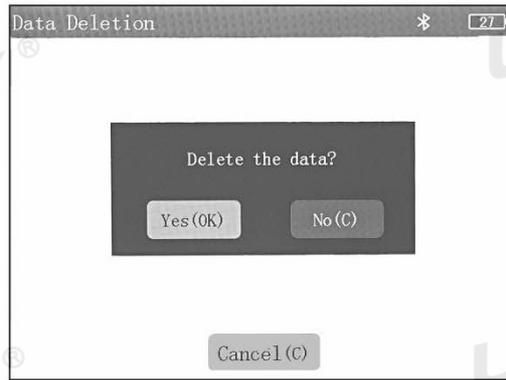

Figure 3.28 Interface of Data Deletion Confirmation
The data deletion mainly realizes the manual data deletion operation. When entering the data deletion interface, the instrument prompts, "Do you want to delete the data? Yes (Y) No (N)". Press [OK] or touch the corresponding key on the screen to delete the data, and press [C] or touch the corresponding key on the screen to cancel the data deletion. The data deletion interface is shown in Figure 3.28.